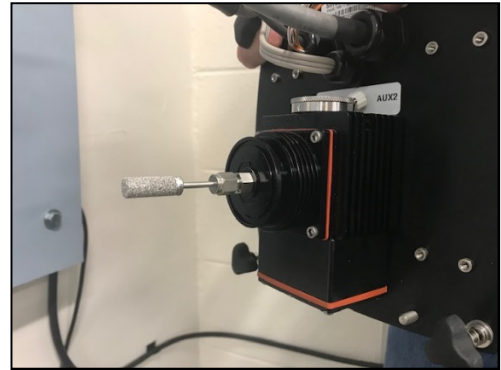

Figure 3: Oil Inlet Assembly
- 4) Remove the yellow protective shipping cap and absorbent pad from the end of the TM1. It is normal to see a small amount of oil after removing the cap. Install the **Oil Inlet** assembly into the threaded hole on the back of the TM1 (**Fig 3**) and tighten, but do not over-tighten.